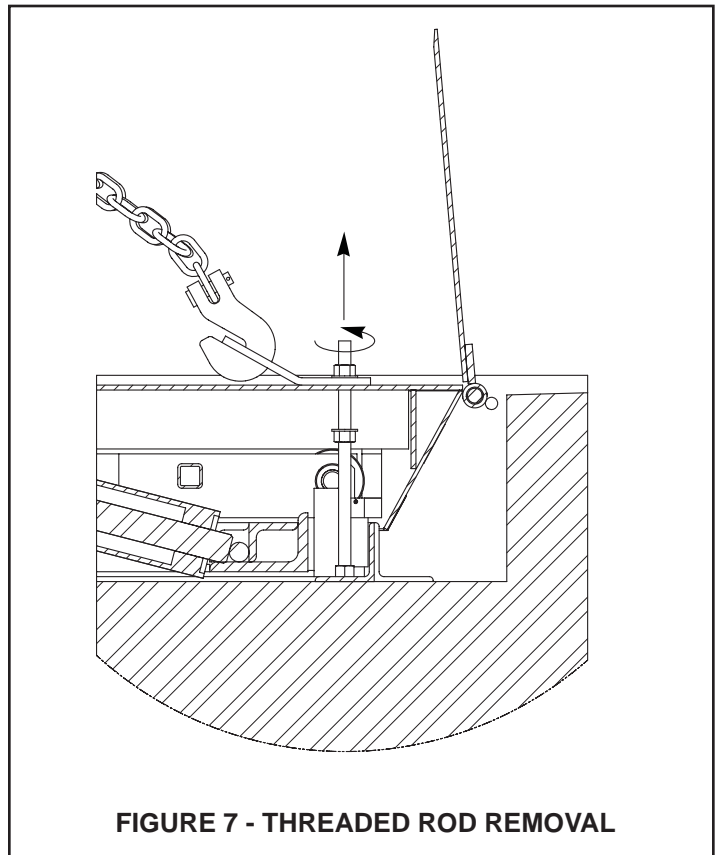

FIGURE 7 - THREADED ROD REMOVAL
5. Pull each threaded rod up until it stops and reinstall the lifting lugs and hardware. See figure 7 & 8.